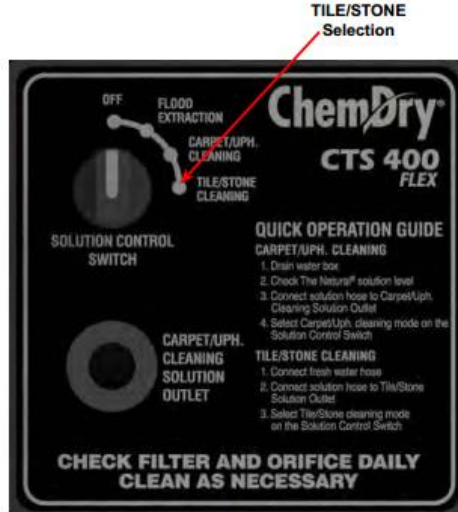

Figure 2-3. Select “TILE/STONE” on Solution Control Switch
4. Select “TILE/STONE CLEANING” on the Solution Control switch (see Figure 2-3).